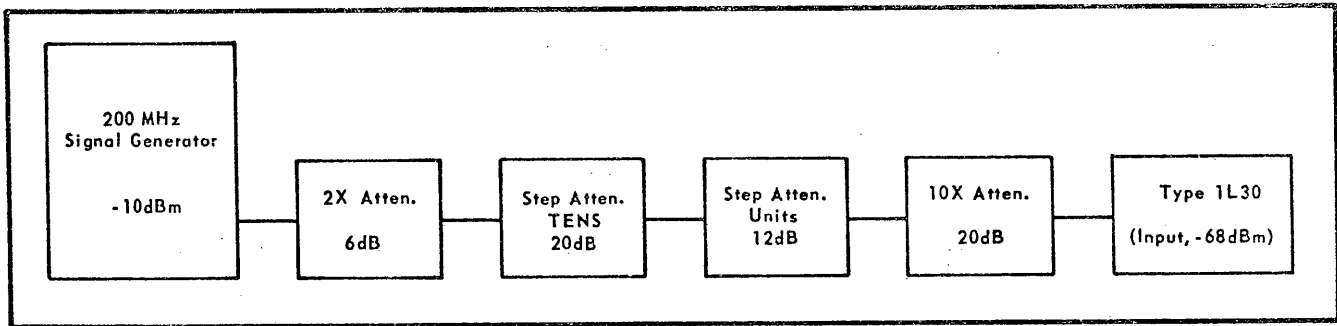

Fig. 5-5. Equipment setup to check attenuator accuracy.
b. Apply a 200 MHz signal from the signal generator that is 10 dB below 1 mV, through a 2 $\times$  Attenuator (6 dB), a Tens and Units Step Attenuator and a 10 $\times$  Attenuator (20 dB) to the Type 1L30 RF INPUT connector. (Fig. 5-5.)